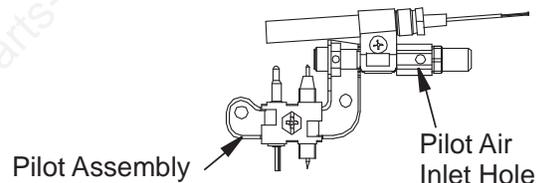

Figure 65 - Pilot Inlet Air Hole (Your pilot may vary from pilot shown)
2. Inspect burner, pilot and primary air inlet holes on injector holder for dust and dirt (see **Figure 65, Page 29**).
Clean pilot assembly also. Additional cleaning may be needed for proper pilot operation based on use/lack of use. A yellow tip on the pilot flame may indicate dust and dirt in the pilot assembly. There is a small pilot air inlet hole about from where the pilot flame comes out of pilot assembly (see **Figure 65**). With unit off, lightly blow air through air inlet hole. You may blow through a drinking straw if compressed air is not available.